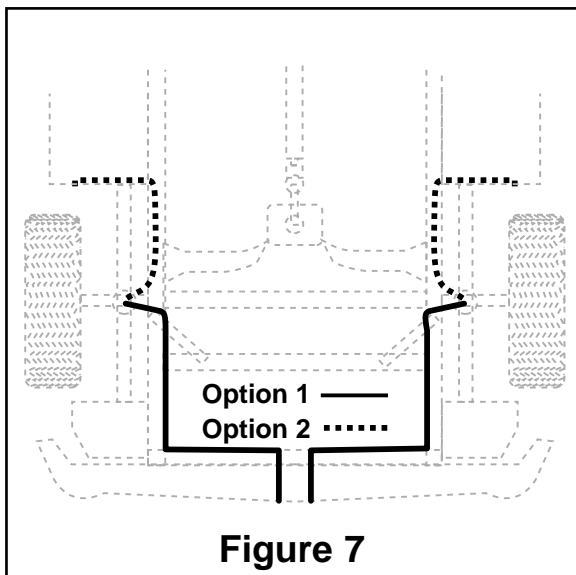

**Figure 5**
- I. Slide a clamp onto the air line and push the air line over the fitting, covering all the barbs. With pliers slide the air line clamp forward until it fully covers the barbed section (Figure 5).